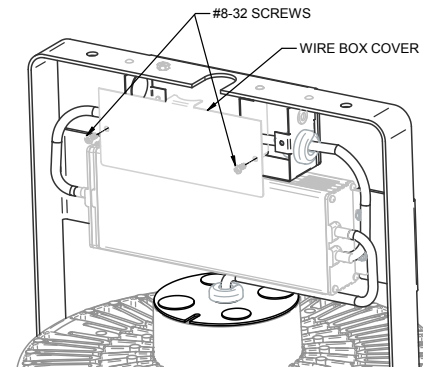

Figure 5
1. Remove wire box cover by removing (2) 8-32 screws. (Figure 5)
INSTALLING HOOK MOUNT (See Figures 5 & 6):